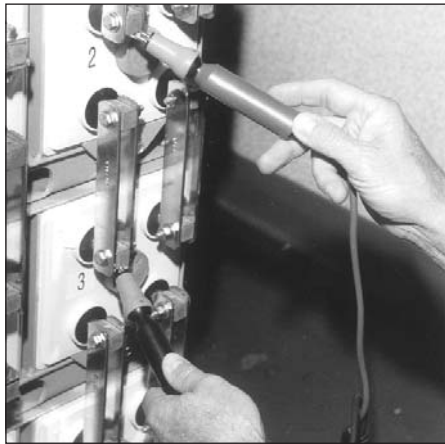

Fig. 6-2
6. Terminal connections should be checked to verify that the installer did torque all connections properly (125 ± 5 in.-lbs.). Micro-ohm readings should be taken across every connection. (Refer to Fig. 6-2, pg. 7.) Refer to meter manufacturer's instructions for proper placement of probes. If any reading differs by more than **20%** from its initial installation value, re-torque the connection to 125 ± 5 inch-pounds. If the reading still remains high, clean contact surfaces according to Step 2 under Connector Assembly.